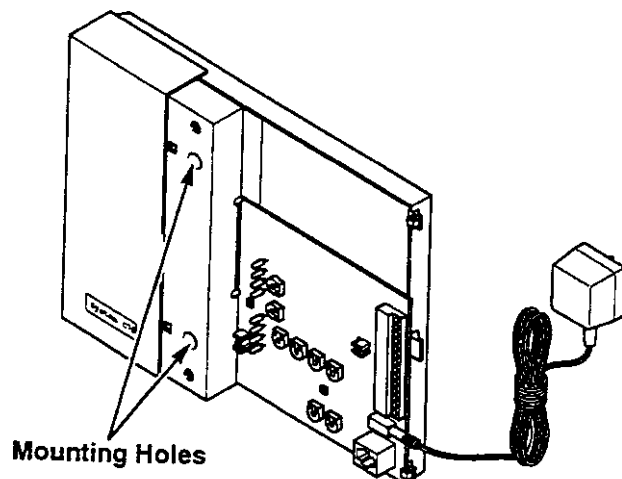

Figure 3. Base Station Mounting Holes
| Figure 3. Base Station Mounting Holes .....                   | 3 |
2. Mount the base station using the included screws and anchors. (See Figure 3.)